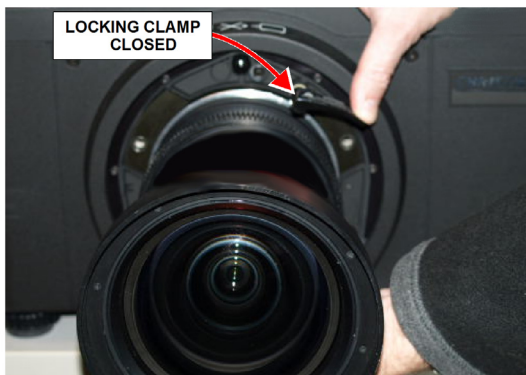
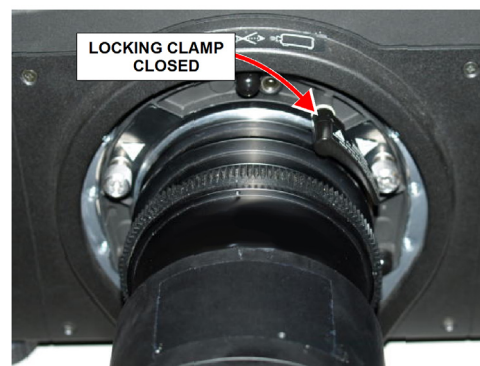

FIGURE 2-3
FIGURE 2-4
- While holding the lens flat against the lens mount, rotate the lens clamp clockwise to lock the lens assembly in place. See *Figure 2-3* & *Figure 2-4*.